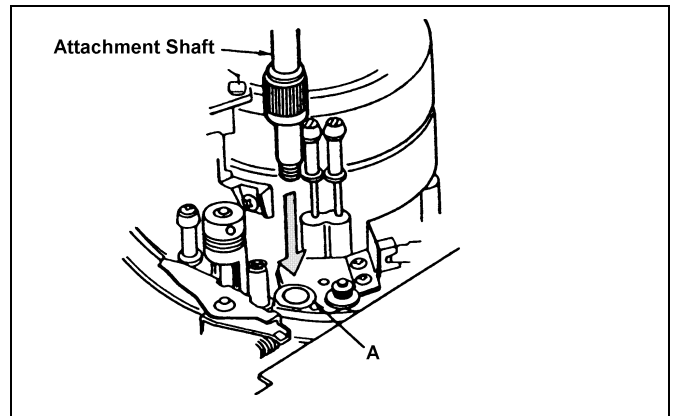

Figure 4 Attachment Shaft
3. Install the Attachment Shaft to A portion on mechanism chassis as shown in figure 4.